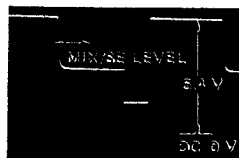

Fig. 4-15
- (1) Connect an oscilloscope to TP-14 on WFP BOARD.
- (2) Set the unit to wipe mode ☐.
- (3) Adjust MIX/SE lever in the control unit so that the waveform is as specified in Fig. 4-15.